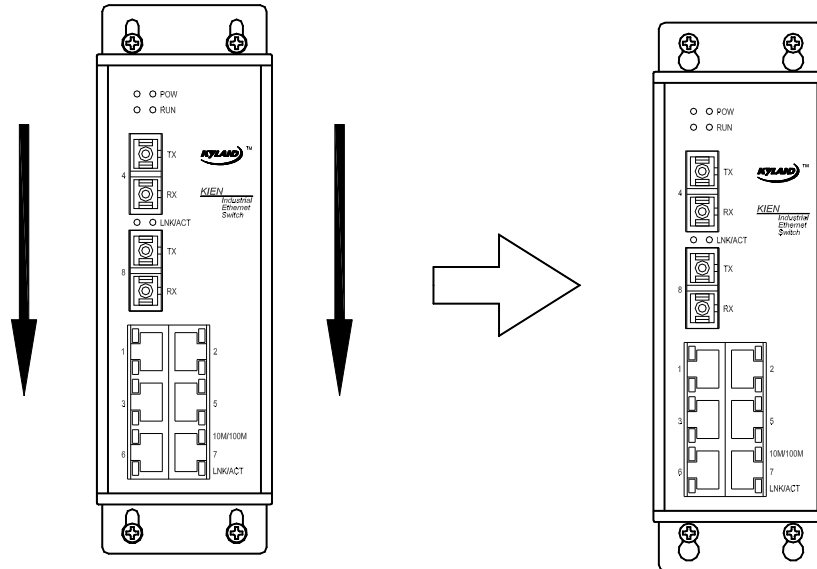

Figure 4-5 Schematic diagram for wall-mounting process
- 4 . After fastening the screws on the wall, mount KIEN6000T in the selected position. Pass the four screws through the four Φ 65 holes on the wall-mounting plate and slip KIEN6000T downwards, as shown in Figure 4-5. Fasten the four screws. KIEN6000T has now been fastened on the wall or inner wall of cabinet.